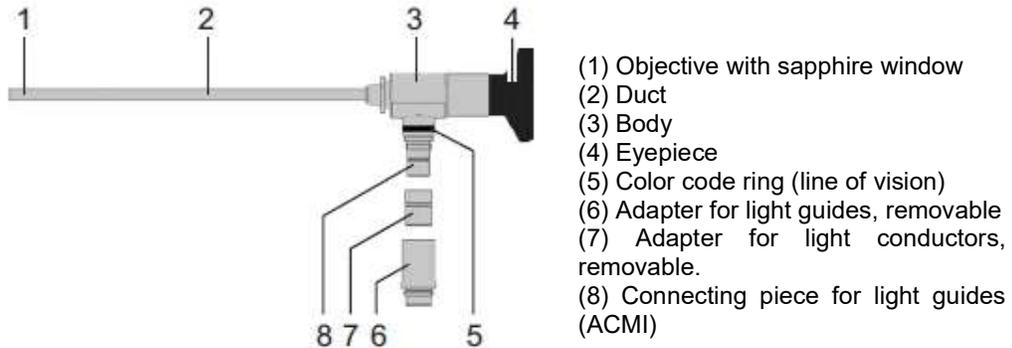

Figure 1: Construction of the Laparoscope
Figure 1 shows the construction of the Quest Spectrum® Laparoscope. The Eyepiece can be only connected to the Quest Spectrum® Camera. Table 2 provides an overview of all laparoscopes provided by Quest Medical Imaging and Table 3 provides an overview of all accessories.
- ❖ Make sure that the adapters of the light- conducting cables comply with the adapters of the laparoscope (see Figure 1).